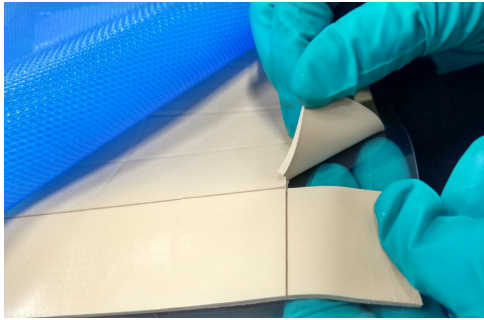

Fig.3
3. Peel off the gap filler from the clear liner(Fig.3) and place it onto desired substrate.